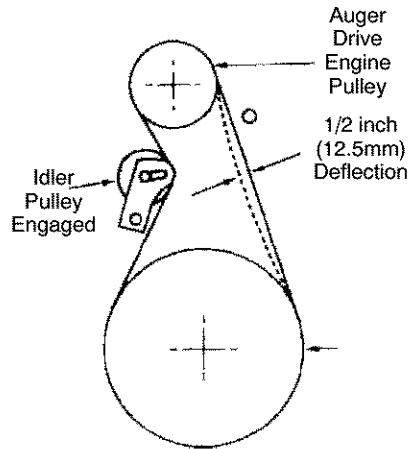

Figure 18
5. Have someone engage auger drive clutch. Check tension on belt (opposite idler pulley). Belt should deflect about 1/2 inch (12.5 mm) with moderate pressure (Figure 18). You may have to move idler pulley more than once to obtain the correct tension.